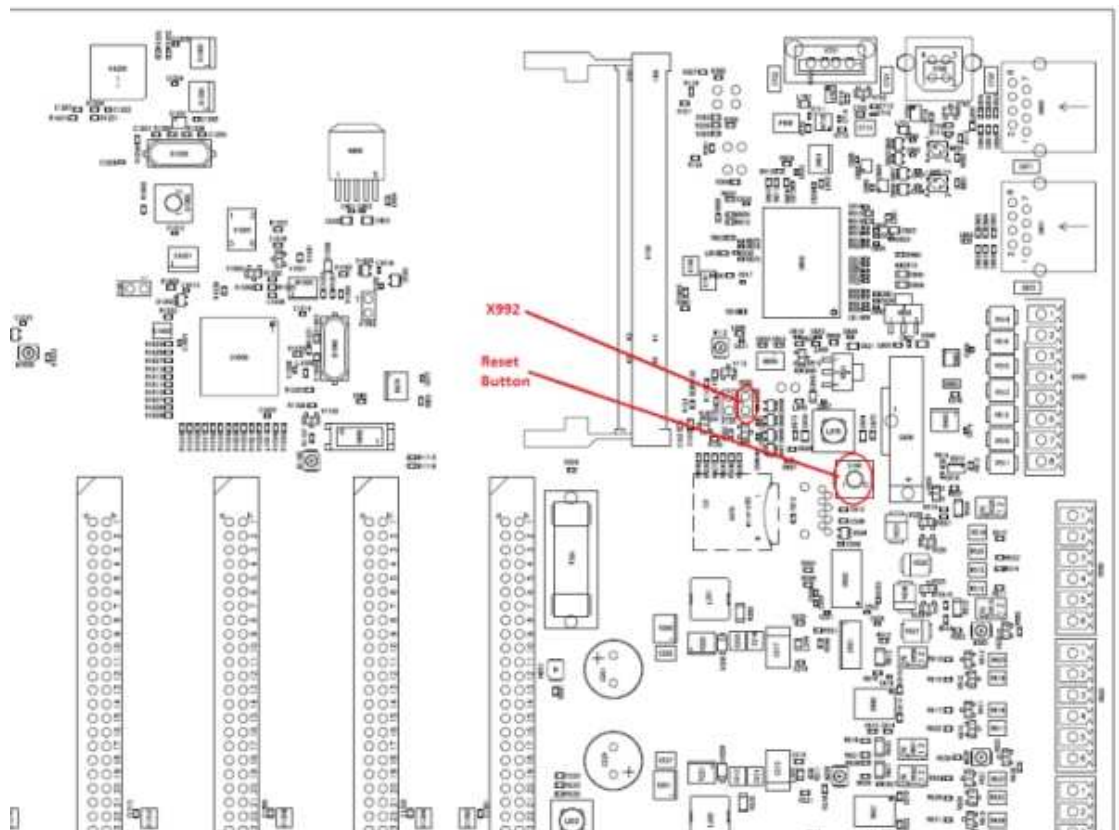

Fig.3 – Backboard Diagram.
5. Place a jumper on **X-992** and power up the controller. (See Fig.3 Below for X-992 jumper location).
- Note: if the **LEDs** never start cycling, try pressing the **Reset button** once (See Fig.3 above for Reset button location), and watch the **LEDs** closely.